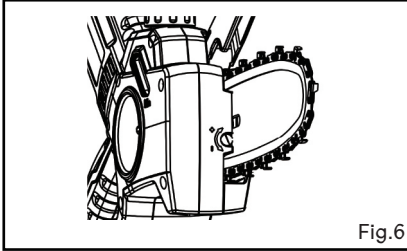

Fig.6
3. Lift-up the guide bar tip slightly and adjust the chain tensioning screw (Fig.6). Use a slotted screwdriver (not included) to turn the chain tensioning screw clockwise to tighten and counterclockwise to loosen.